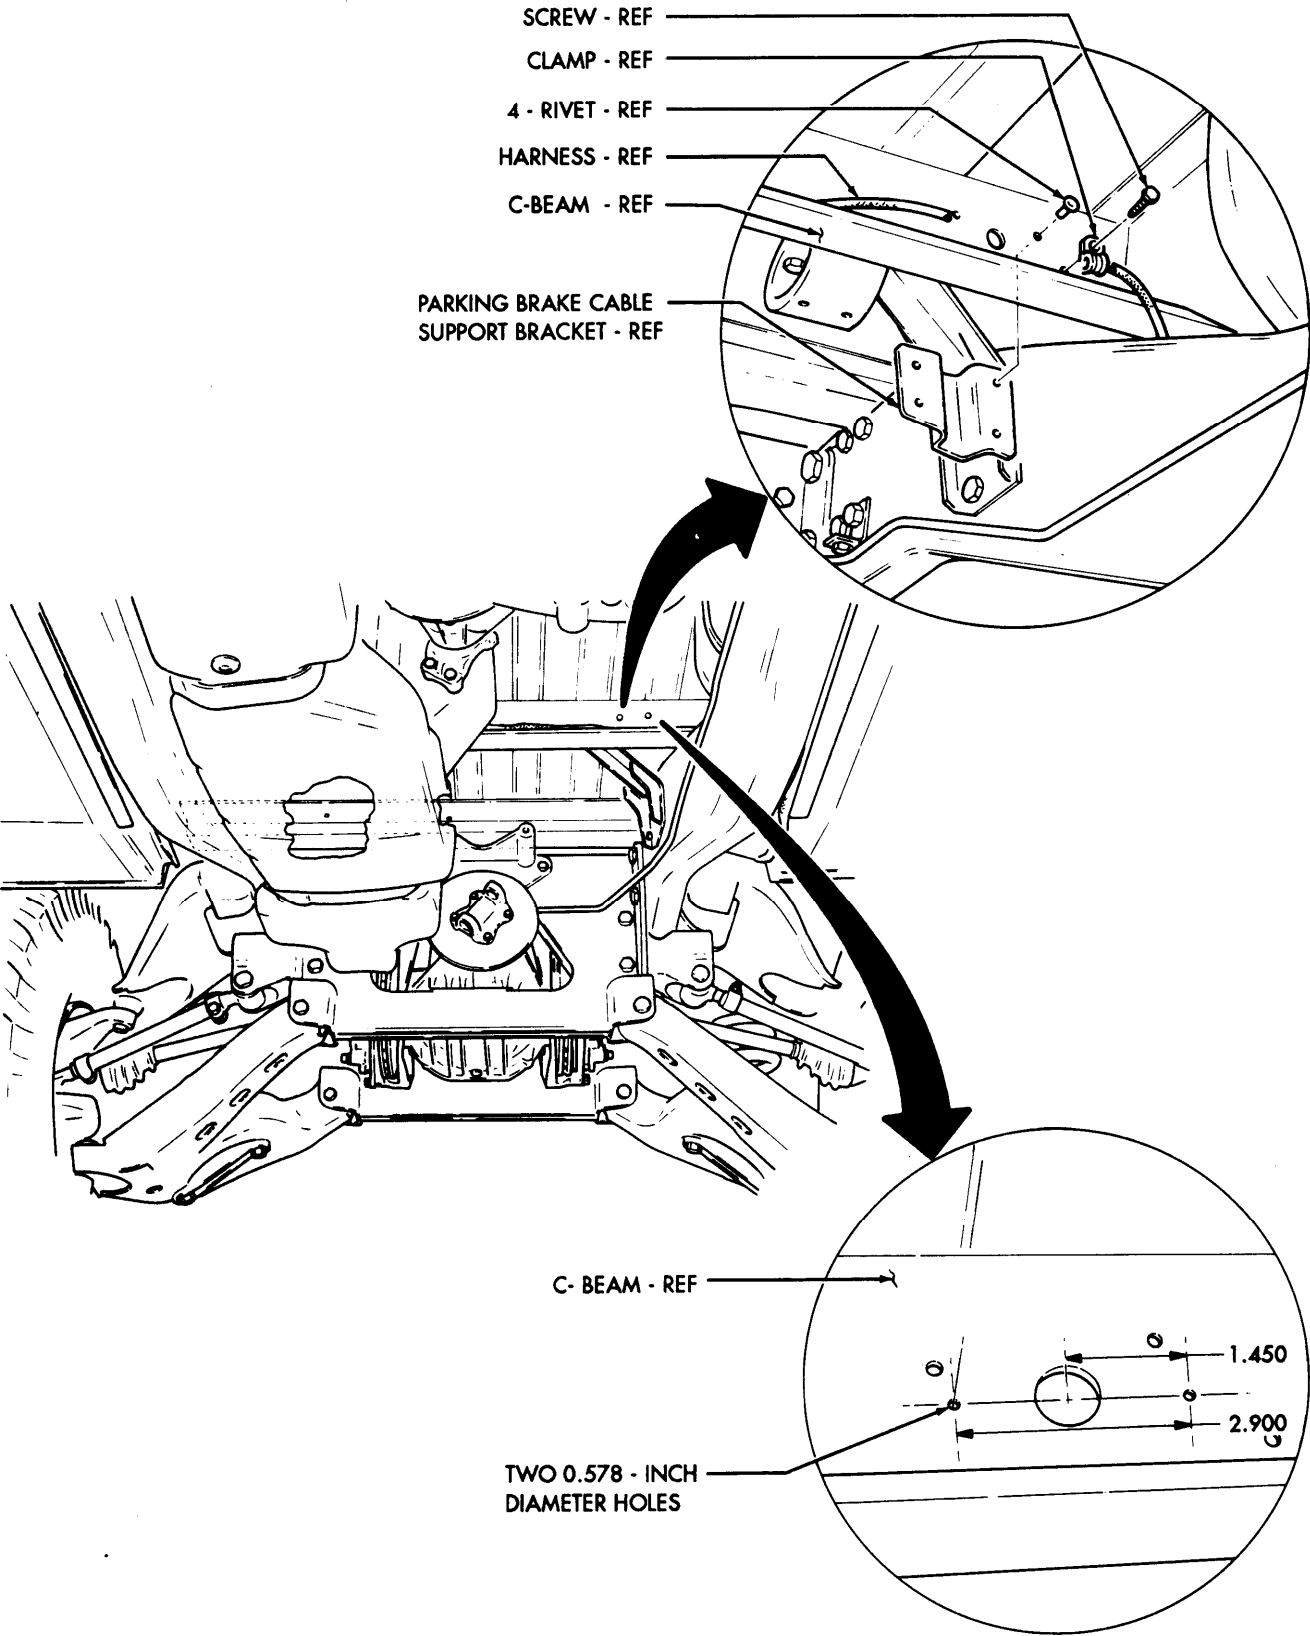

Figure 1
- (7) Remove parking brake cable. (Refer to TM 9-2320-280-20.)
- (8) Remove parking brake heat shield. (Refer to TM 9-2320-280 -20.)
- (9) Remove parking brake caliper. (Refer to TM 9-2320-280-20.)
- (10) Remove service brake calipers. (Refer to TM 9-2320-280-20.)
- (11) Slide locating pins and yokes from caliper assemblies. (Refer to TM 9-2320-280-20).
- (12) Remove screw from clamp on C-beam and pull harness out of the way as shown in figure 1.
- (13) Remove and discard locating pins from yokes. (Refer to TM 9-2320-280-20.)
- (16) Remove four rivets and parking brake cable support bracket from C-beam as shown in figure 1. Discard rivets and bracket.
- (17) Locate, mark, and drill two 0.578-inch diameter holes in C-beam as shown in figure 1. Remove paint around holes on both sides of C-beam.
- (18) Install harness on C-beam and secure with screw and clamp as shown in figure 1.